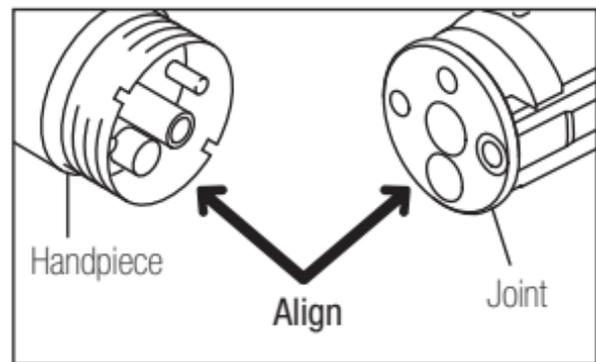

Fig. 11
- 4) Mount the Joint into the handpiece. Make certain the pipe and joint together. (Fig.11)